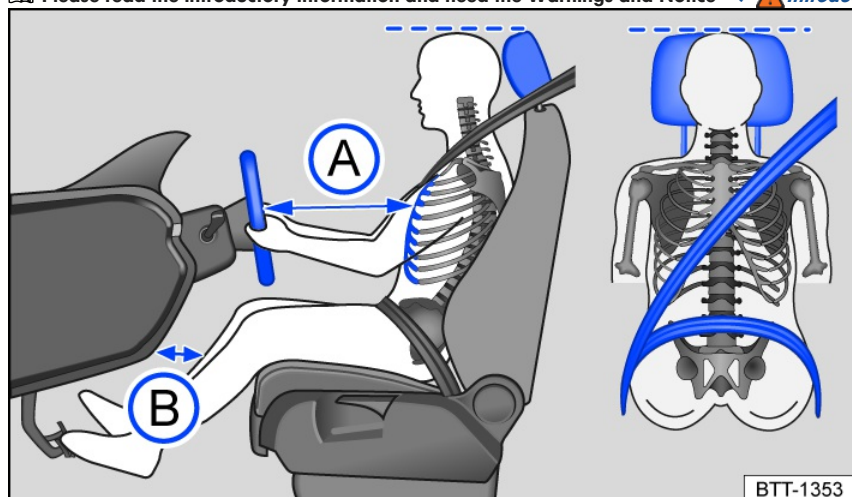

Fig. 20 General example: correct distance between the driver and the steering wheel, correct safety belt routing and correct head restraint adjustment.
- Adjust the head restraint so that the upper edge of the head restraint is in line with the upper portion of the head as much as possible, but not lower than eye level. Position the back of the head as close as possible to the head restraint fig. 20.
- Adjust the steering wheel so that the distance between the steering wheel and your chest is at least 25 cm (around 10 inches) fig. 20 and you can hold the steering wheel firmly at the sides with both hands and your elbows slightly bent.
- Adjust the forward/back position of the driver seat so that you can press the pedals while your legs are slightly bent and there is at least 10 cm (around 4 inches) of space between the instrument panel and your knees fig. 20.